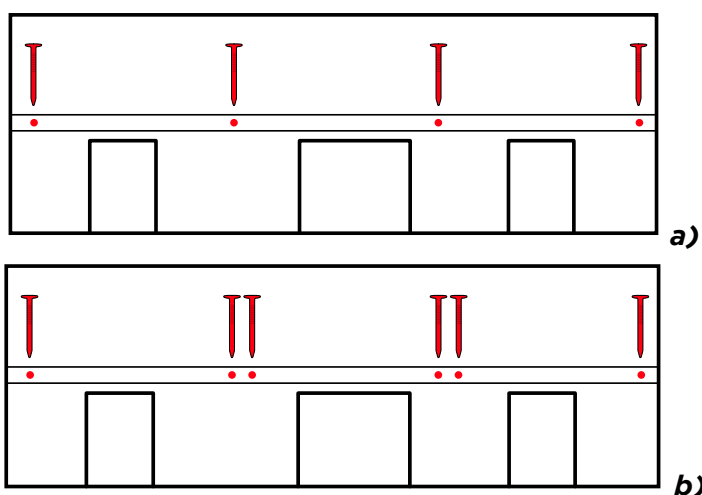

**Fig. 6** - Start Line SA
- As the starting line, use the Start Line SA: a self-adhesive bituminous membrane strip with slate chips on the surface, 33 cm in height, from which the protective backing film should be removed prior to installation - Fig. 6;